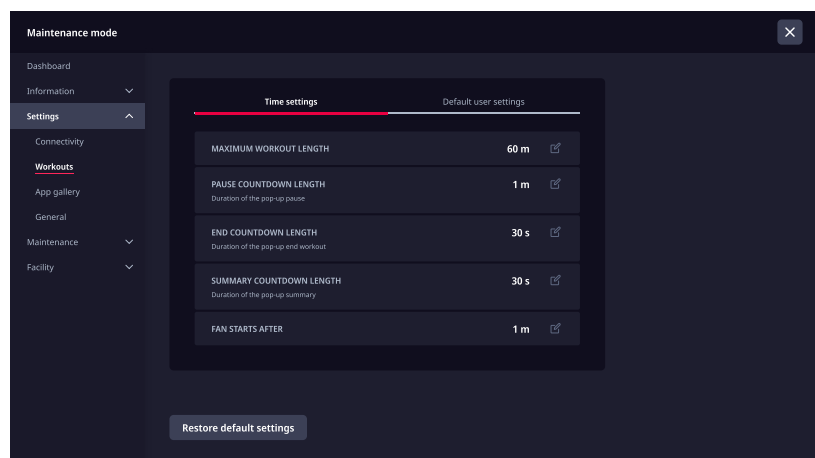

Fig. 62
3. Tap  to remove all changes and return console to default values (Fig. 62).